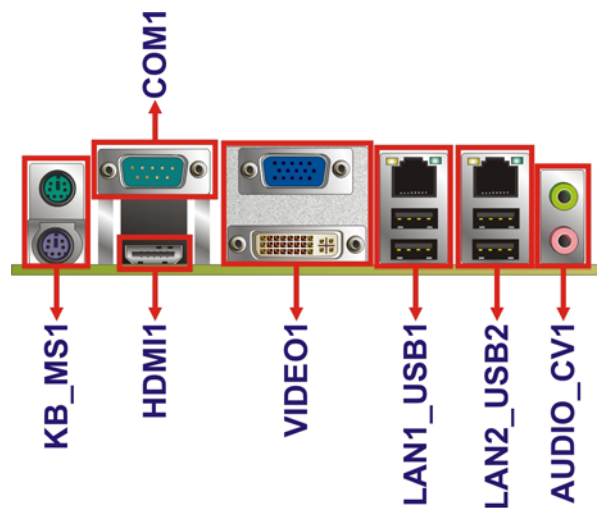

Figure 3-14: KINO-780AM2 External Peripheral Interface Connector
Figure 3-14 shows the KINO-780AM2 external peripheral interface connector panel.
CN Location:	See Figure 3-14
- CN Location:** See Figure 3-14
CN Location: See Figure 3-14